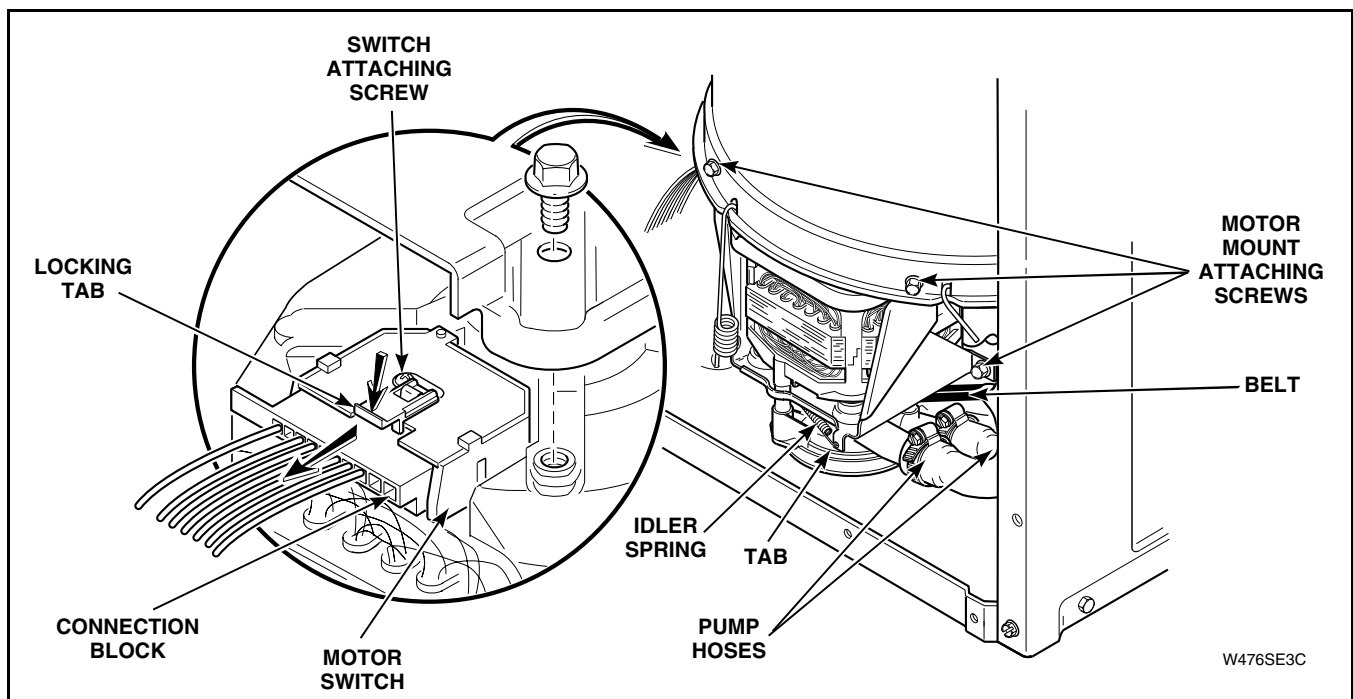

Figure 40
- Loosen hose clamps and remove hoses from pump assembly. Refer to *Figure 40*.
- Unhook idler spring from tab on front of motor mounting bracket. Refer to *Figure 40*.
- Reach in and around right side of motor and run belt off right side of large drive pulley. Refer to *Figure 40*.
- Disconnect wire harness from motor switch by pressing down on locking tab on top of connection block and at the same time pull connection block away from motor switch. Refer to *Figure 40*.
- Remove four screws holding motor and mounting bracket to lower outer tub flange and to weldment assembly. Refer to *Figure 40*. Then lift complete assembly out of washer.
- c. Loosen hose clamps and remove hoses from pump assembly. Refer to *Figure 40*.
- d. Unhook idler spring from idler lever. Refer to *Figure 40*.
- e. Reach in and around right side of motor and run belt off right side of large drive pulley. Refer to *Figure 40*.
- f. Disconnect wire harness from motor switch by pressing down on locking tab on top of connection block and at the same time pull connection block away from motor switch. Refer to *Figure 40*.
- g. Remove four screws holding motor mounting bracket to lower flange of outer tub and to weldment assembly. Refer to *Figure 40*. Then remove complete assembly out of washer.